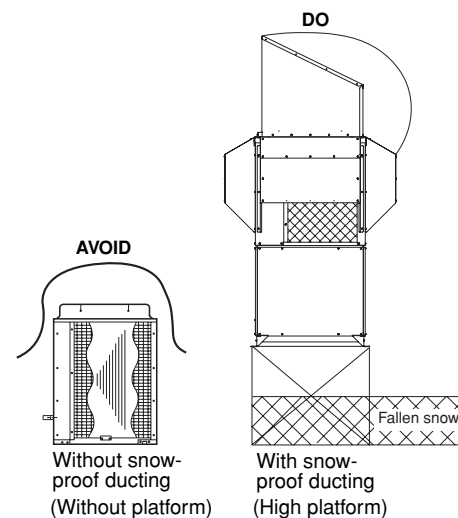

Fig. 2-9
In regions with heavy snowfall, the outdoor unit should be provided with a solid, raised platform and snow-proof ducting (field supply). (Fig. 2-9)
- a) The platform should be higher than the maximum snow depth. (Fig. 2-9)